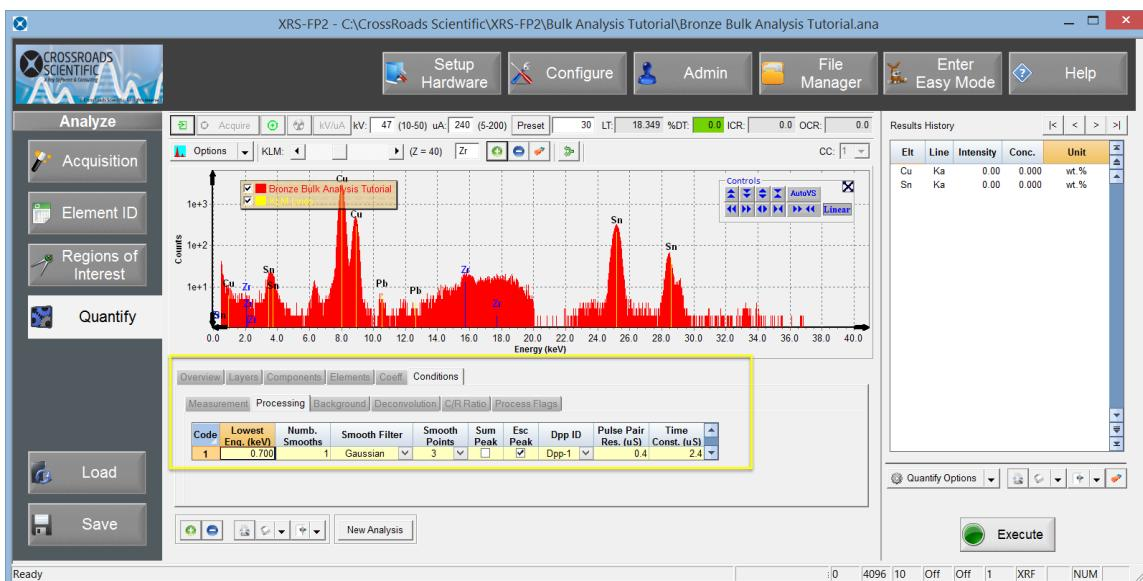

Figure 10. XRS-FP2 Analyze Workflow - Quantify. Spectrum processing conditions associated with this application.
11. Click on the “Conditions” tab in the Quantify view, then click on the “Processing” tab to view the spectrum processing conditions. See Figure 10 below. We have chosen to apply one smooth function, remove escape peaks, and apply the Auto Background removal (“Background” tab).
12. Now select the **Execute** button in the R-hand panel in the Quantify workflow (Fig. 10 above) to extract intensities and concentrations for the elements in the bronze spectrum. Note that the Execute button does a complete “process all” (smooth, escape peak removal, background removal, deconvolution) and quantification of the spectrum. You may also select the Quantify Options button to individually process and quantify the spectrum in a stepwise fashion.